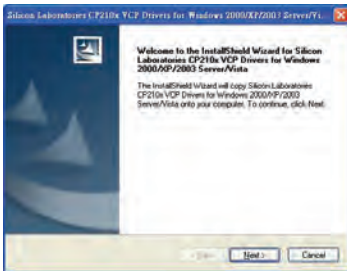

Fig.8
- (1) We recommend close all other application before installing SE378.
- (2) Insert setup CD disk to CD disk drive to display install screen. You may also run mainsetup.exe in the directory of the CD.
- (3) Click Install to begin installation.
- (4).It will install USB-120 connector driver first:
- (5) While installing, it will show this window below, just click **“next”** to continue.(see Fig.8)